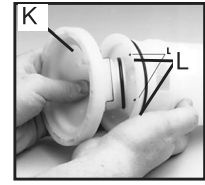

Figure 8.
9. When reassembling the pump housing to the pressure cylinder, be sure the square tab on the pump housing (K) is aligned in the notch. See arrows (L) on the pressure cylinder in Figure 8. Be careful not to pinch or nick the O-ring. Figure 8.